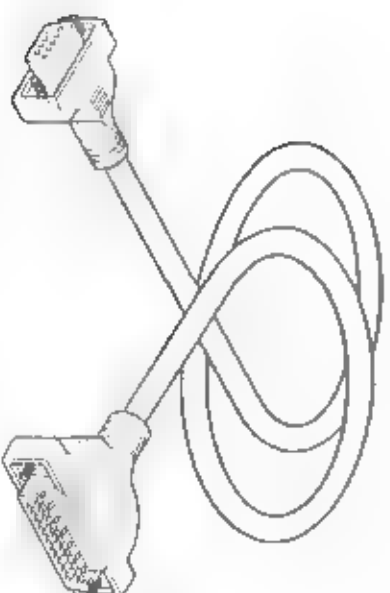

Figure 10-4. Terminal Adapter Cable
- 1 If the terminals to be connected have 25-pin connectors, you must install a terminal adapter cable for each terminal (Figure 10-4).